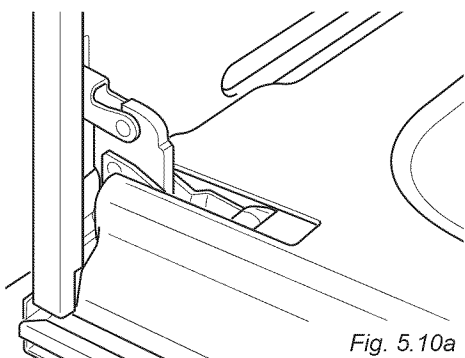

Fig. 5.10a
- Open the door to the full extent (fig. 5.10a).